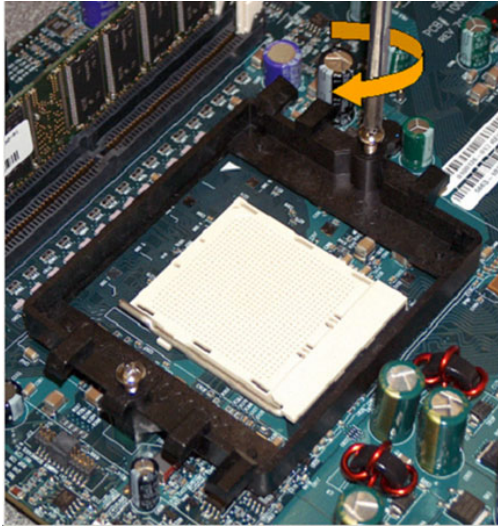

Figure 10. Tightening Down the Retention Frame
9. Place the screws and tighten down the retention frame. (See Figure 10 on page 22.)